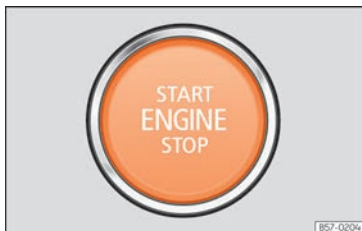

Fig. 210 In the lower part of the centre console: start button.
- Press the starter button »» **Fig. 210**; do not press the accelerator. There needs to be a valid key inside the vehicle for the engine to start. After starting the engine, the lighting of the **START ENGINE STOP** button changes to steady lighting, indicating that the engine has started.
- *Vehicles with start buttons:* Briefly press the start-up button »» » Fig. 210.